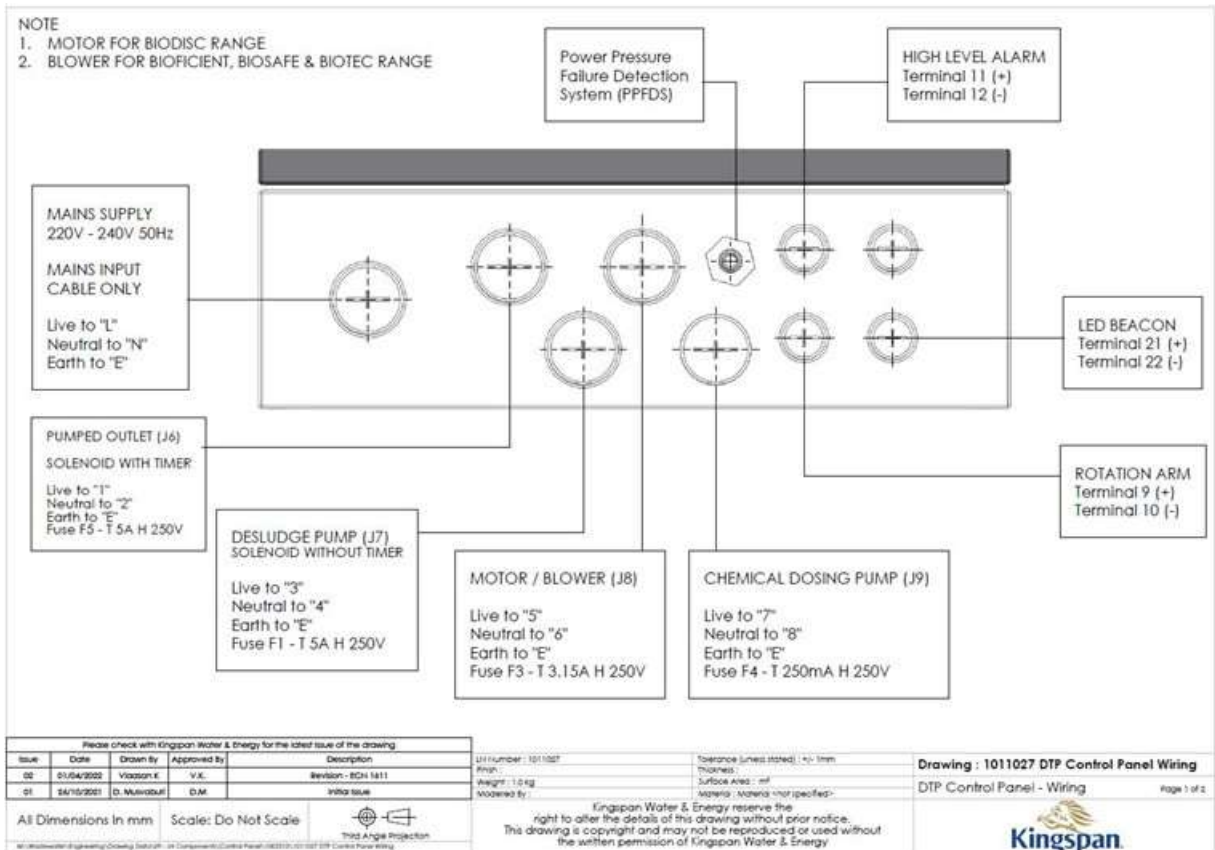
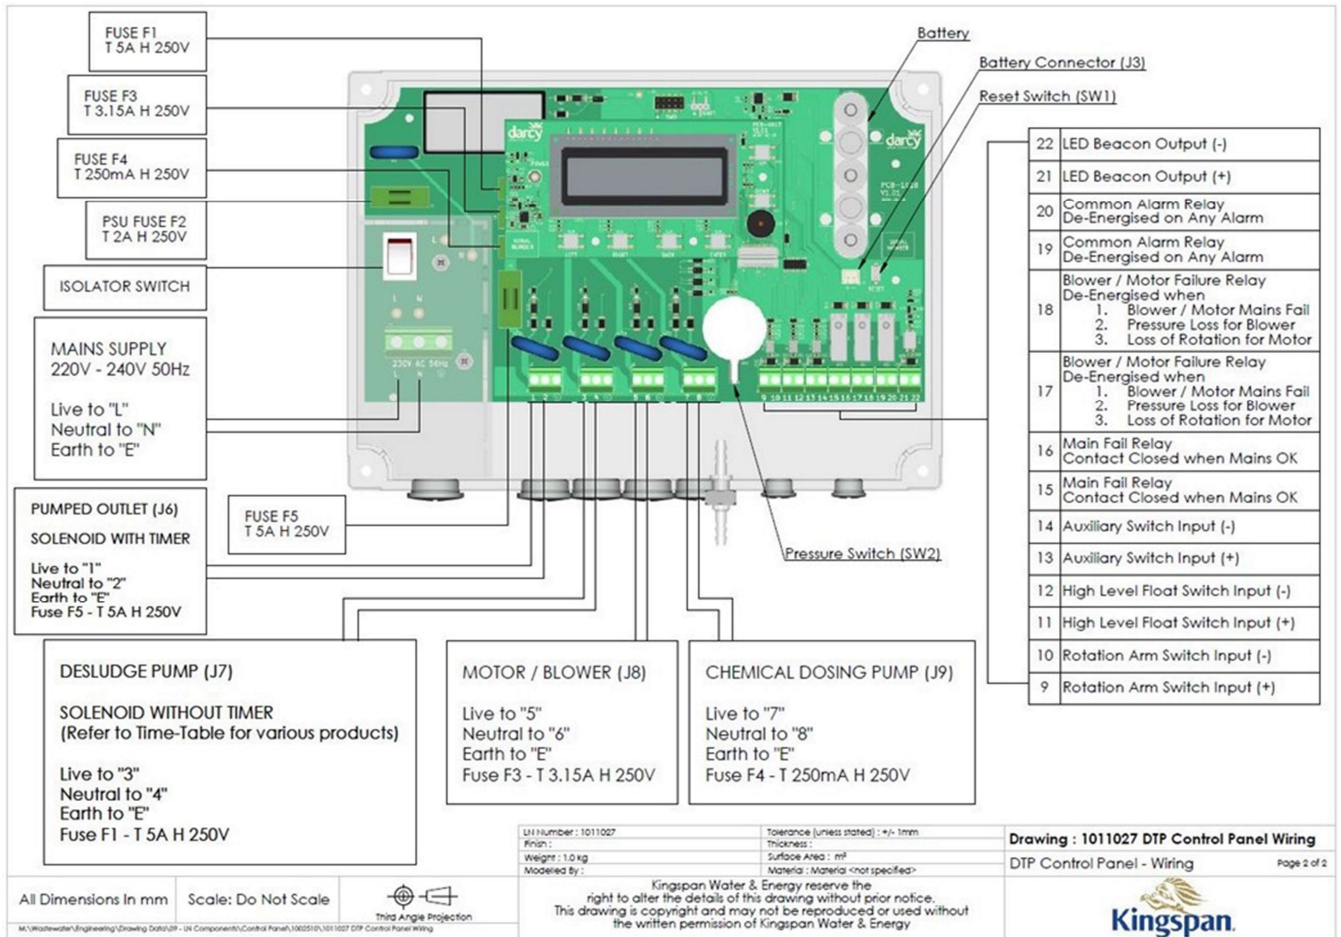

Figure 3: Control Panel Wiring (1)
Figure 4: DTP Control Panel Wiring (2)
Using a suitable M20 gland, feed the pump power cable through Gland Hole and terminate to connections 1 & 2 (J6) according to Figure 3 & Figure 4
Fix the black plastic bracket to the side wall of the baffle (the exact position is on the drawing included with the HLA kit). Secure the float cable in the cable gland as shown on the drawing in the HLA kit. Pull the float cable through any installed ducting into the blower housing. Complete wiring according to Figure 3 & Figure 4
The Beacons provides an external visual indication which is used to indicate Failure & Service Reminders and may be included in the Power and Pressure Failure Detection System (PPFDS). The beacon is provided with a 5m cable which can be extended to 30m. As supplied, the unit is protected against rain to IP65 and is supplied ready to mount on a suitable surface. Complete wiring according to Figure 3 & Figure 4
Complete all wiring according to Figure 4 DTP Control Panel Wiring (2)
There are three volt-free contacts available for alarm reporting to external systems. Follow Guide on Figure 4 for wiring.